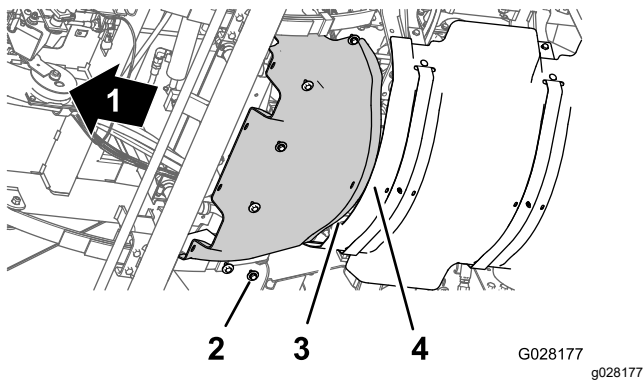

Figure 67
1. Align the rear flange of the forward heat shield over the forward flange of the rear heat shield (Figure 67).
2. Align the holes in the forward heat shield with the threaded holes in the chassis (Figure 67).
3. Assemble the forward heat shield to the machine with the 6 hex-head bolts and 6 washers (Figure 67) that you removed in step 3 of Removing the Forward Heat Shield (page 52).